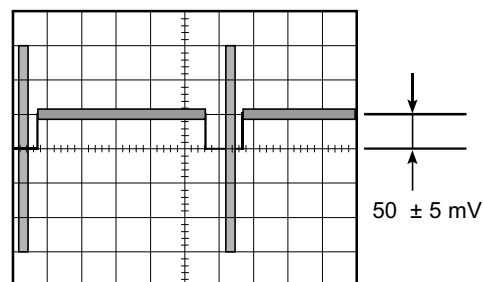

Fig. 4-6
- Adjust data with the **ARROW** keys so that the Pedestal level becomes 50 ± 5 mV as shown in Fig. 4-6.